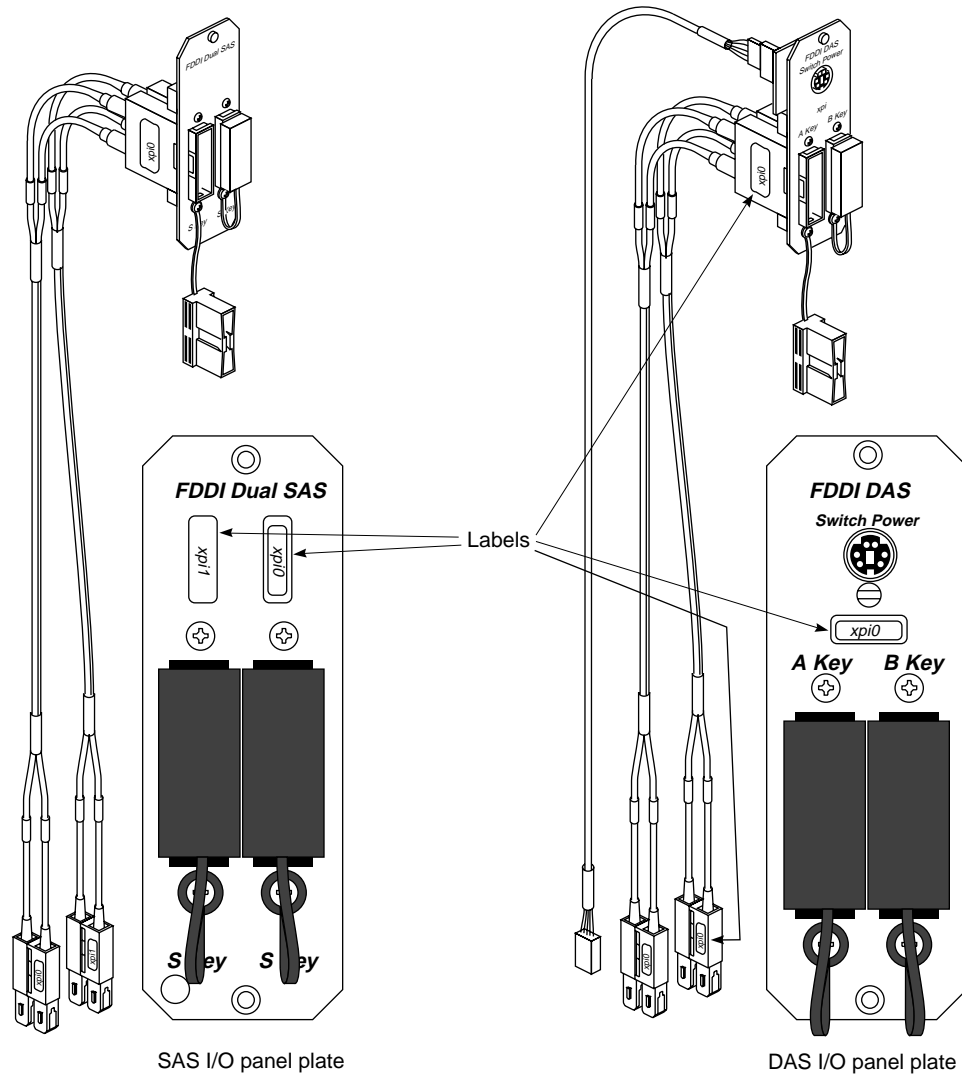

Figure 4-1 Internal FDDIXPress Cables and Panel Plates
Follow the steps in the appropriate subsection to attach the internal FDDI cables to the board and the panel plates (illustrated in Figure 4-1) to the card cage's I/O panel.
1. Locate the internal cable assembly. It consists of four fiber optic lines terminated inside two SC-duplex connectors at one end and two MIC receptacles attached to the I/O panel plate at the other end. See Figure 4-1 for an example of the assembly.
1. Locate the two internal cable assemblies. Each assembly consists of four fiber optic lines terminated inside two SC-duplex plugs at one end and two MIC receptacles attached to the I/O panel plate at the other end. See Figure 4-1 for an example.
5. Use two small-sized labels to identify the two network interfaces on the outside of the I/O panel plate(s), as illustrated in Figure 4-1.